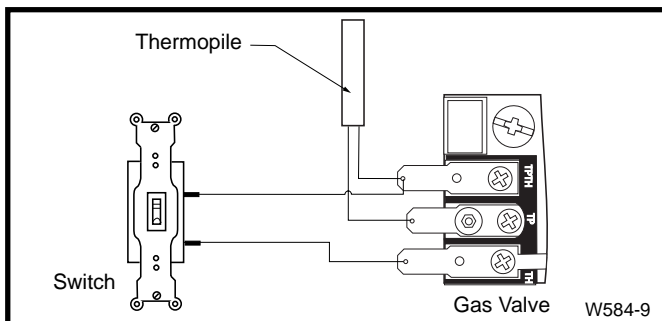

Fig. 5 Remote switch wiring diagram for R models.
3. Connect wiring to gas valve. (Fig. 5)